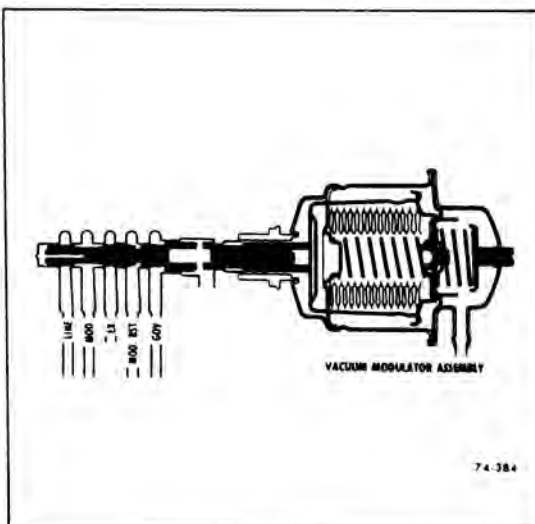

Figure 74-14—Modulator Valve
f. Modulator Valve (See Figure 74-14)